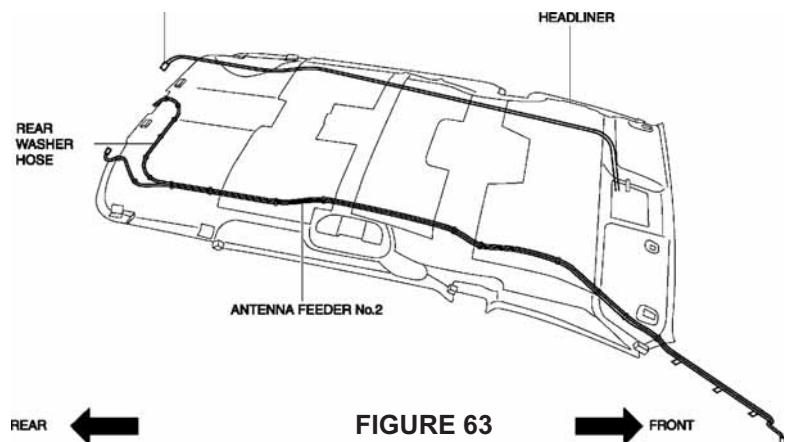

FIGURE 63
- 11.) CONNECT THE ROOF WIRING HARNESS CONNECTOR AND ATTACH THE ROOF WIRING HARNESS CONNECTOR CLIP TO THE BODY. (SEE FIGURE 63)
- 12.) CONNECT THE REAR WASHER HOSE. (SEE FIGURE 63)
- 13.) CONNECT THE REAR ANTENNA FEEDER NO. 2. (SEE FIGURE 63)